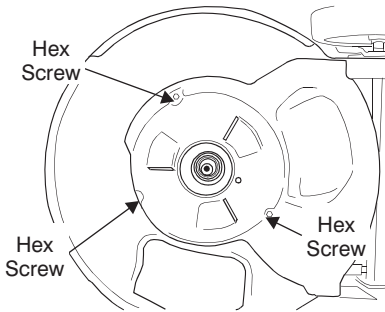

Figure 19
- Using a 3/8" socket remove three hex screws holding the baffle to the deck. See Figure 19.